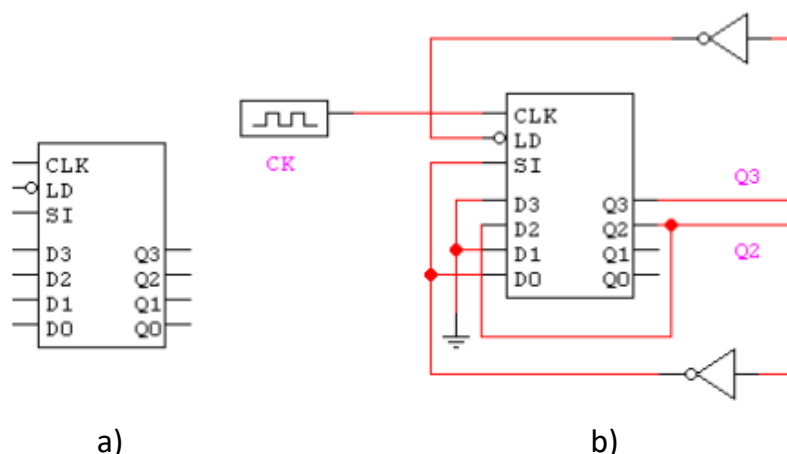

Fig. 1 – a) – a 4-bit shift register; b) – application of the shift register in a counting circuit.
9. [Paper and pencil + *Quartus Prime*]. Design a delay line of length  $N$ , where  $N$  ranges from 1 to 16. The desired delay is specified with four inputs:  $A3 \ A2 \ A1 \ A0$  containing the unsigned binary representation of  $N-1$ . You may only use 4-bit shift registers (similar to those shown in Fig. 1) and multiplexers 4:1. Try to minimize the number of used components.